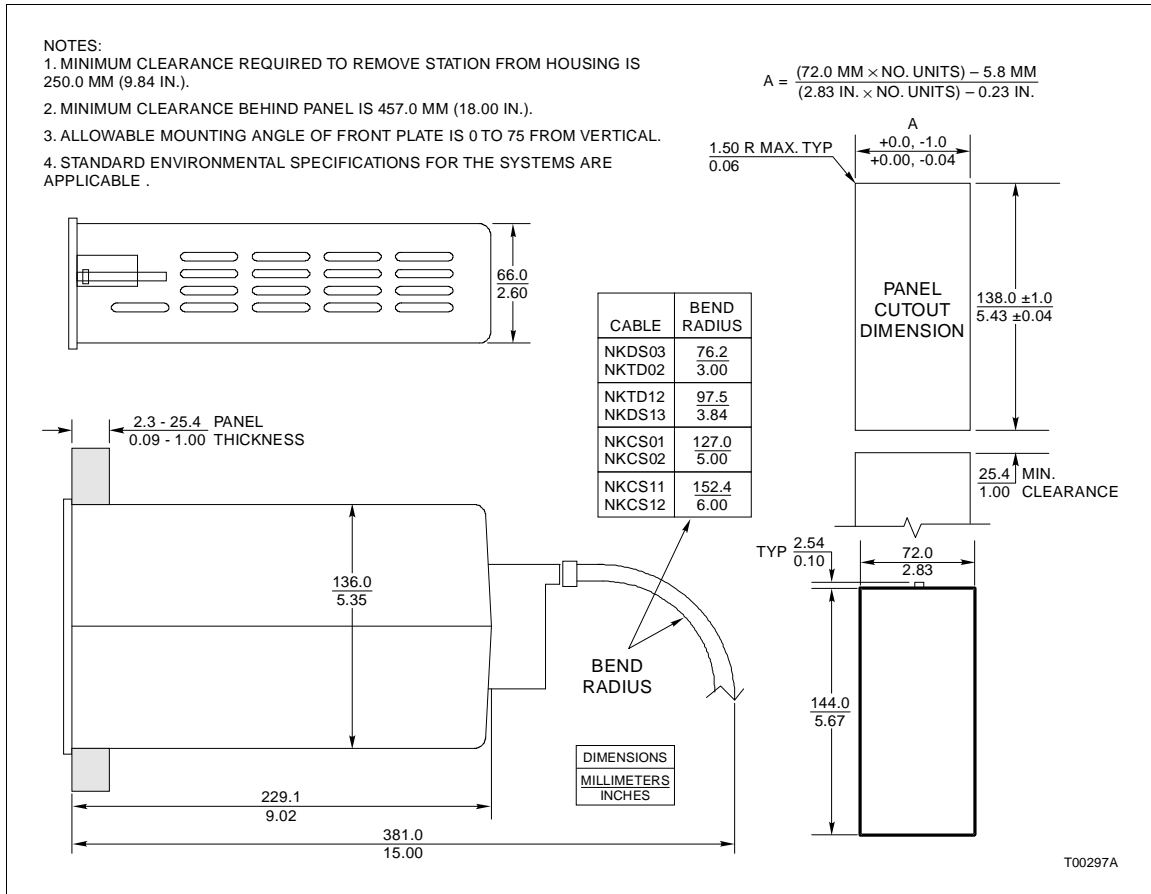

Figure 3-2. Station Housing Panel Cutout and Mounting Dimensions
1. See Figure 3-2 for the station housing panel cutout and mounting dimensions. Prepare the panel opening accordingly.